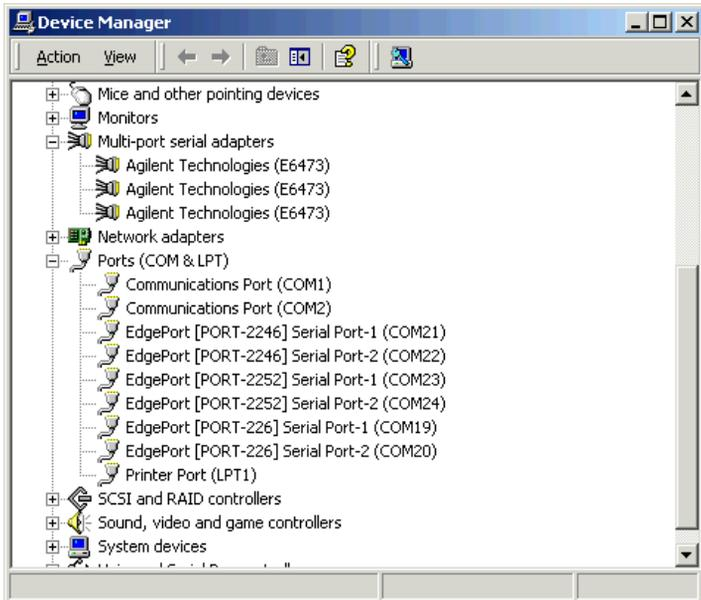

Figure 9 Device Manager showing E6473B ports
- 6 Expand the device tree to see the active ports. Refer to Figure 9 on page 35.